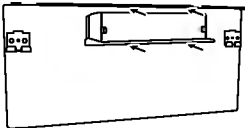

Fig.2
- (3) Fit the ducting flange using the four supplied 4 × 10 PTT screws (see Fig.2)